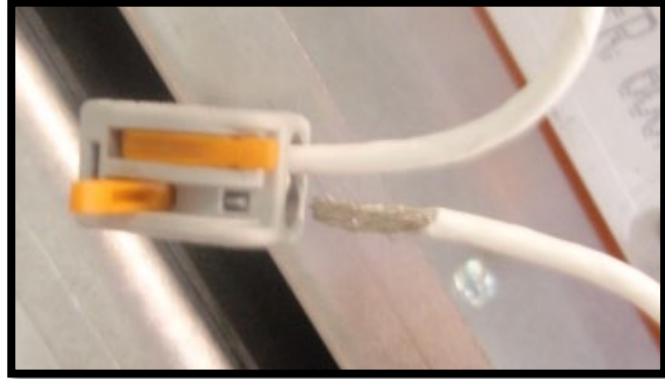

Figure 61. Attach Wago block.
6. Connect the wires together and reattach Wago blocks (Figure 61).